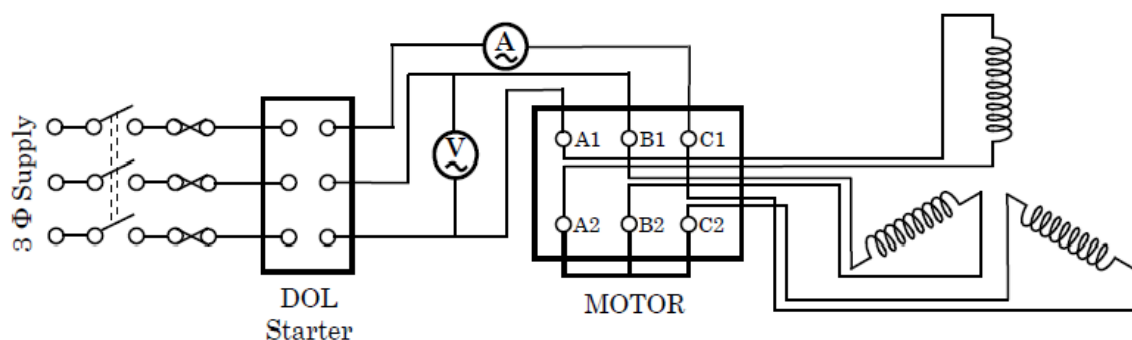

Figure 3: Connection Diagram for DOL starter.
- a) Make the connection as shown in Figure 3.